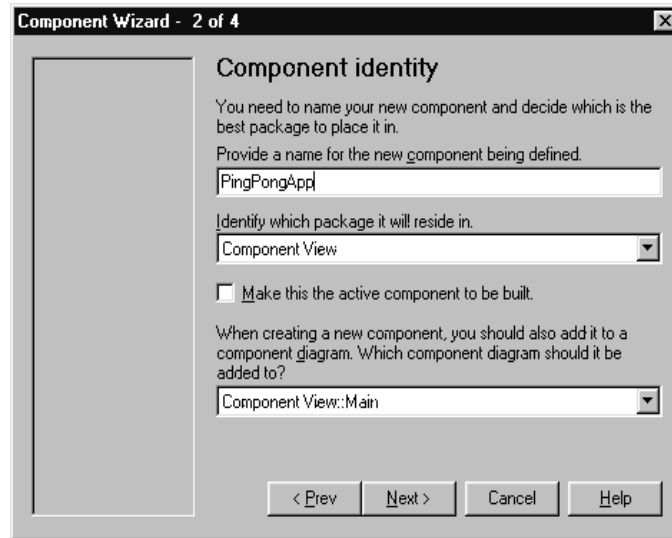

Figure 23 *Setting the component identity - Iteration 1*
3. Type “PingPongApp” in the component name field as shown in Figure 23. Ensure that the package is Component View and click **Next**.